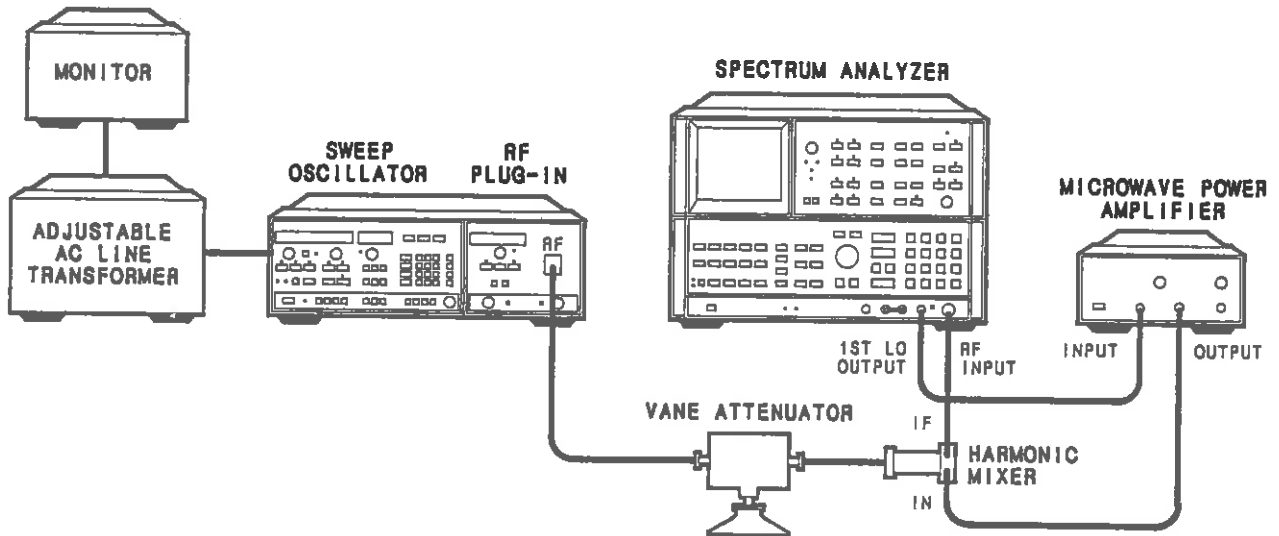

Figure 4-7. Frequency Change with Line Voltage Test Setup
1. Connect the equipment as shown in figure 4-7. Set the sweep oscillator LINE switch to ON. Set the vane attenuator to 20 dB.